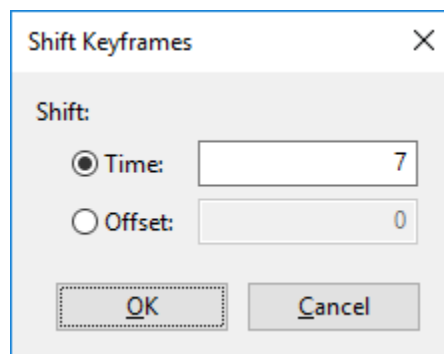

Figure 36. Shift Keyframes dialog
2. Right-click the keyframes and select **Shift Times**. This will open the **Shift Keyframes** dialog as shown in Figure 36.